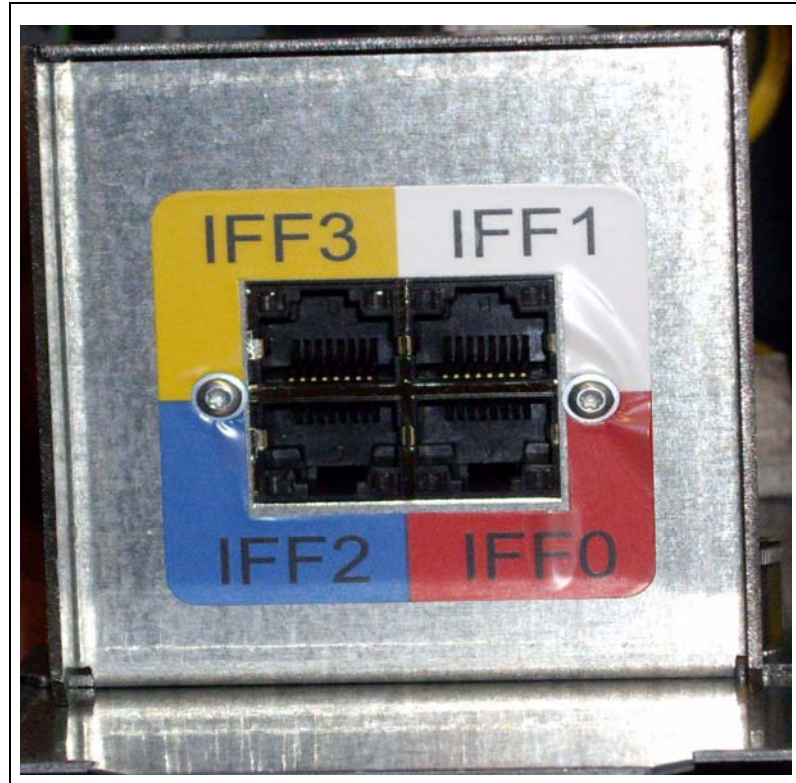

Figure 27. IFF3 Ethernet Port for Connection to TCP/IP Network
4. Ensure that the VTSS is connected with Ethernet cable to the TCP/IP network via the IFF3 port at the bottom of the frame as shown in Figure 27.